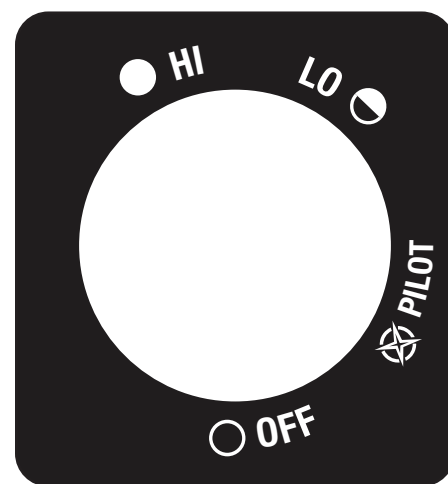

Figure 5
1. Make sure four-position Control Knob is in "OFF" position. See Figure 5.
2. Open valve at propane (LP) gas supply cylinder.
3. Turn Control Knob counterclockwise to "PILOT" position and depress to light. Refer to Figure 5.